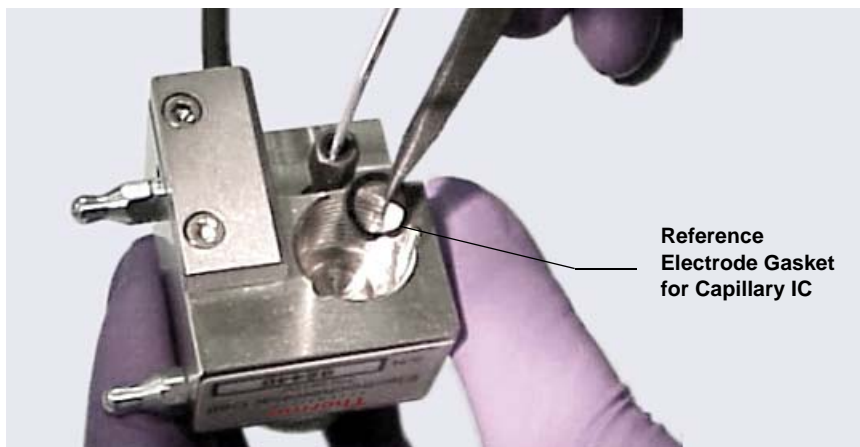

Figure B-9. *Reference Electrode Gasket for Capillary IC*
3. Using tweezers, install the reference electrode gasket for capillary IC (P/N 072162) into the bottom of the reference electrode well (see Figure B-9).